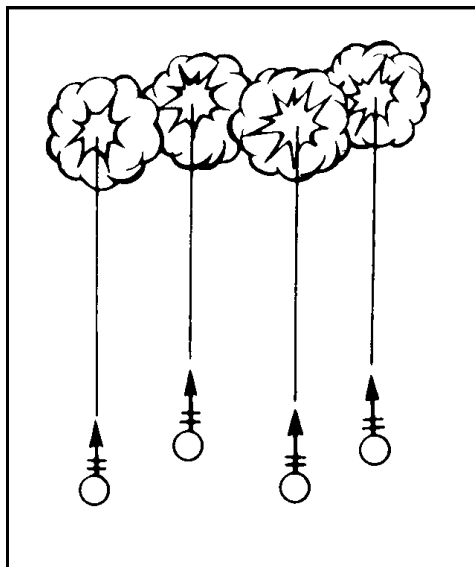

Figure 4-1. Parallel sheaf.
a. **Parallel Sheaf.** A parallel sheaf (Figure 4-1) is usually used on area targets. With the parallel sheaf, the distance between impacts of rounds from two or more mortars is the same as the distance between the mortars. Also, mortars all fire the same deflection, elevation, and charge.